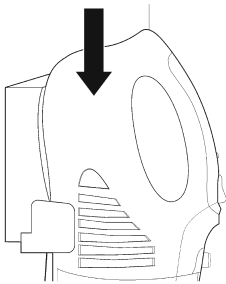

Abb. 7
- a) Connect the cable of the mains adapter (5) to the mains.
- b) Make sure that the on/off switch (14) is turned to OFF (switched off).
- c) Insert the appliance correctly into the station (2) (Fig. 7). If it has been positioned correctly, the red LED will light up. Charge the appliance for at least 2 hours.